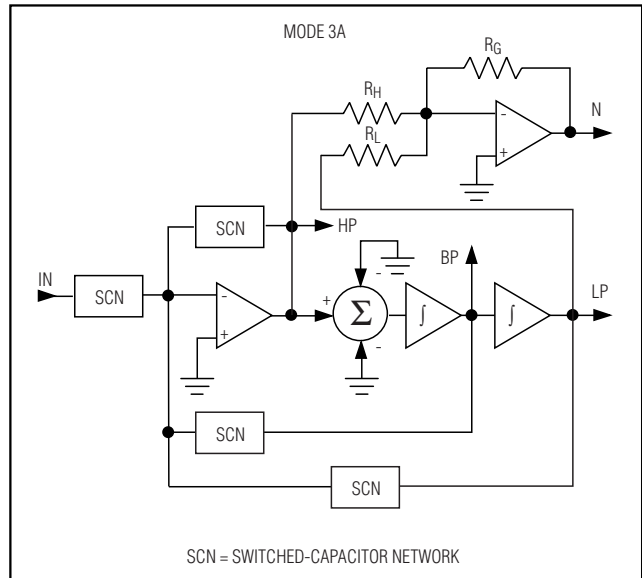

Figure 10. Filter Mode 3a: Second-Order Bandpass, Lowpass, Highpass, and Notch. For elliptic LP, BP, HP, and Notch, the  $N$  output is used.
**MODE 3A** (Figure 10) uses a separate op amp to sum the highpass and lowpass outputs of mode 3, creating a separate notch output. This output allows the notch to be set independently of  $f_0$  by adjusting the op amp's feedback resistor ratio ( $R_H$ ,  $R_L$ ).  $R_H$ ,  $R_L$ , and  $R_G$  are external resistors. Because the notch can be independently set, mode 3A is also useful when designing pole-zero filters such as elliptics.